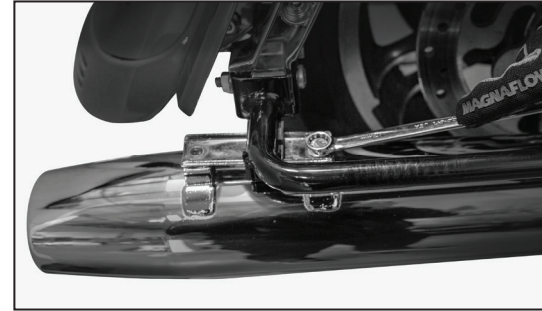

Fig.4
4. Remove the two 5/16 inch bolts and washers attaching each muffler to the saddle bags mounts. (Figure 4)